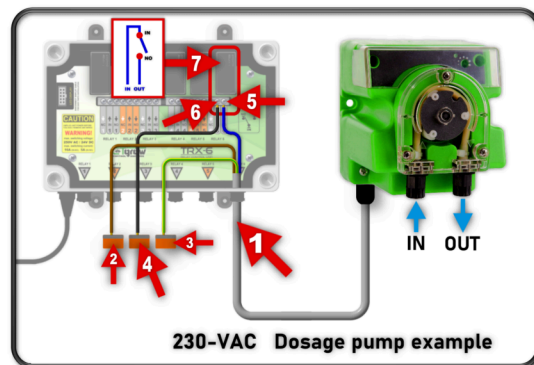

Figure 7.0.3
Once the TRX-6 unit is opened, you can proceed to feed the power cable coming from the device into the corresponding TRX-6 cable gland and fasten it. (See Figure 7.0.3-1).
Next, take the brown (Line) wire from the device cable and connect it to a separated terminal block. (See Figure 7.0.3-2). If available, Do the same for the grounding cable (green / yellow) (See Figure 7.0.3-3). Next, take the blue (Neutral) wire from the device cable and connect it to the (NO) wire terminal on the TRX-6 unit. (See Figure 7.0.3-5/7).
Next, obtain a piece of (black) wire, and connect one end to the (IN) terminal on the TRX-6 unit (See Figure 7.0.3-6/7). Route the other end of the black switch wire to a separated terminal block. (See Figure 7.0.3-5).